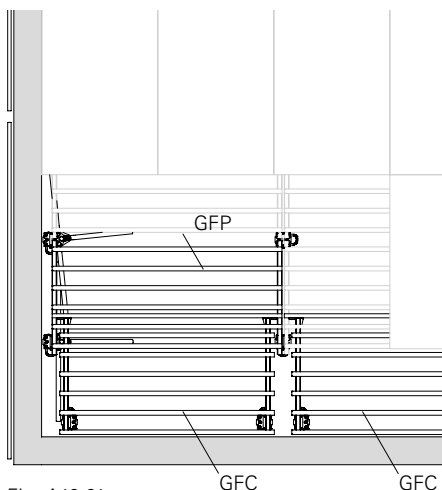

Fig. A10.01
4. Swing the Filler Element GFC downwards and unhook it. (Fig. A10.01)